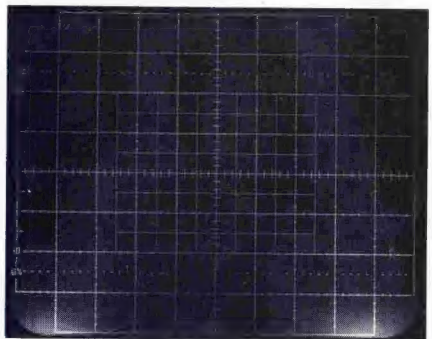
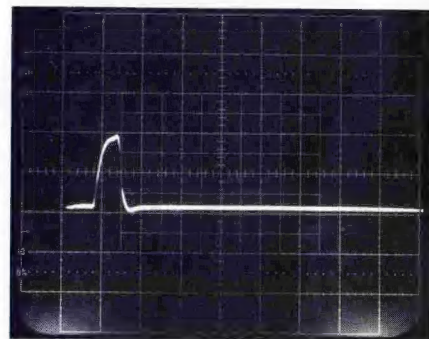

Fig. 3. B sweep at 50 ns/div, triggered on narrow pulse not visible in figure 2. Pulse repetition rate is too low for visible trace at 50 ns/div.
Fig. 4. B sweep at 50 ns/div using FAST storage. Shows 25 ns pulse not visible in figure 2 or 3.
Switching the horizontal display mode to view the fast delayed sweep (B) you see the display pictured in figure 3. The trace is not visible as the trigger repetition rate is too low to produce a visible trace at this fast sweep rate. This is where fast storage comes into play. By simply pressing the FAST storage button, the hidden pulse is displayed as in figure 4.